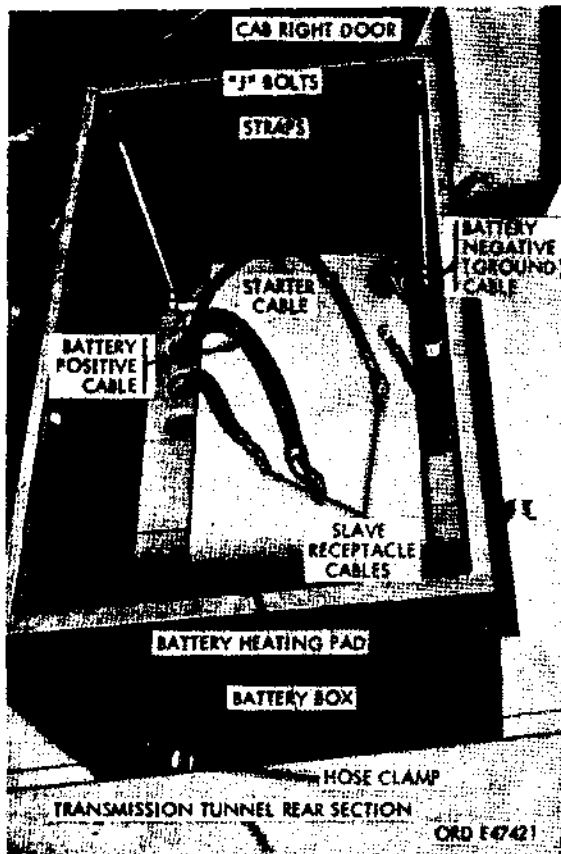

Figure 632. Battery box installed
- (4) Position the battery box (fig. 626) on the floor where assistant driver's seat was removed so that the holes in battery box are over the holes in the floor, as shown in figure 632.
- (5) Remove a hose clamp from one end of the 83-inch coolant hose (Q, 625) and place the clamp between the right side of transmission tunnel rear section and the battery box (fig. 632), in line with the coolant hose holes in the box and rear section.
- (6) Secure the battery box through the existing battery box mounting holes in floor cab, using the four 3/8 x 1 bolts and lockwashers supplied with the battery box. Install insulations in battery box.
- (7) Remove 33-inch positive battery cable coming from the brake solenoid and connect the 36-inch cable furnished in the kit.
- (8) Slide the battery heating pad (fig. 626) into the battery box so that the hose connection on the end of the pad passes through the opening in the left end of the box and also through the hose clamp between battery box and transmission tunnel rear section (fig. 632).
- (9) Hook the four "J" bolts to the straps at the corners on the bottom of the battery box (fig. 632).
- (10) Pass all battery cables from battery compartment up through the holes in floor of cab and through the bottom of the battery box, as shown (fig. 632).